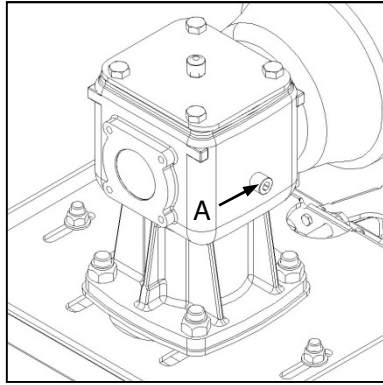

Fig. 8 (Rotagang®)
- ✓ The gearbox is equipped with an oil filling port. Remove the filler plug (Fig. 8-A) and add oil through the filling port so that the oil level coincides with the bottom edge of the hole.
- ✓ Die ratkas het 'n olievlak. Verwyder die vulprop (Fig. 8-A) en gooi olie by totdat die olievlak gelyk is met die onderste rand van die gat.